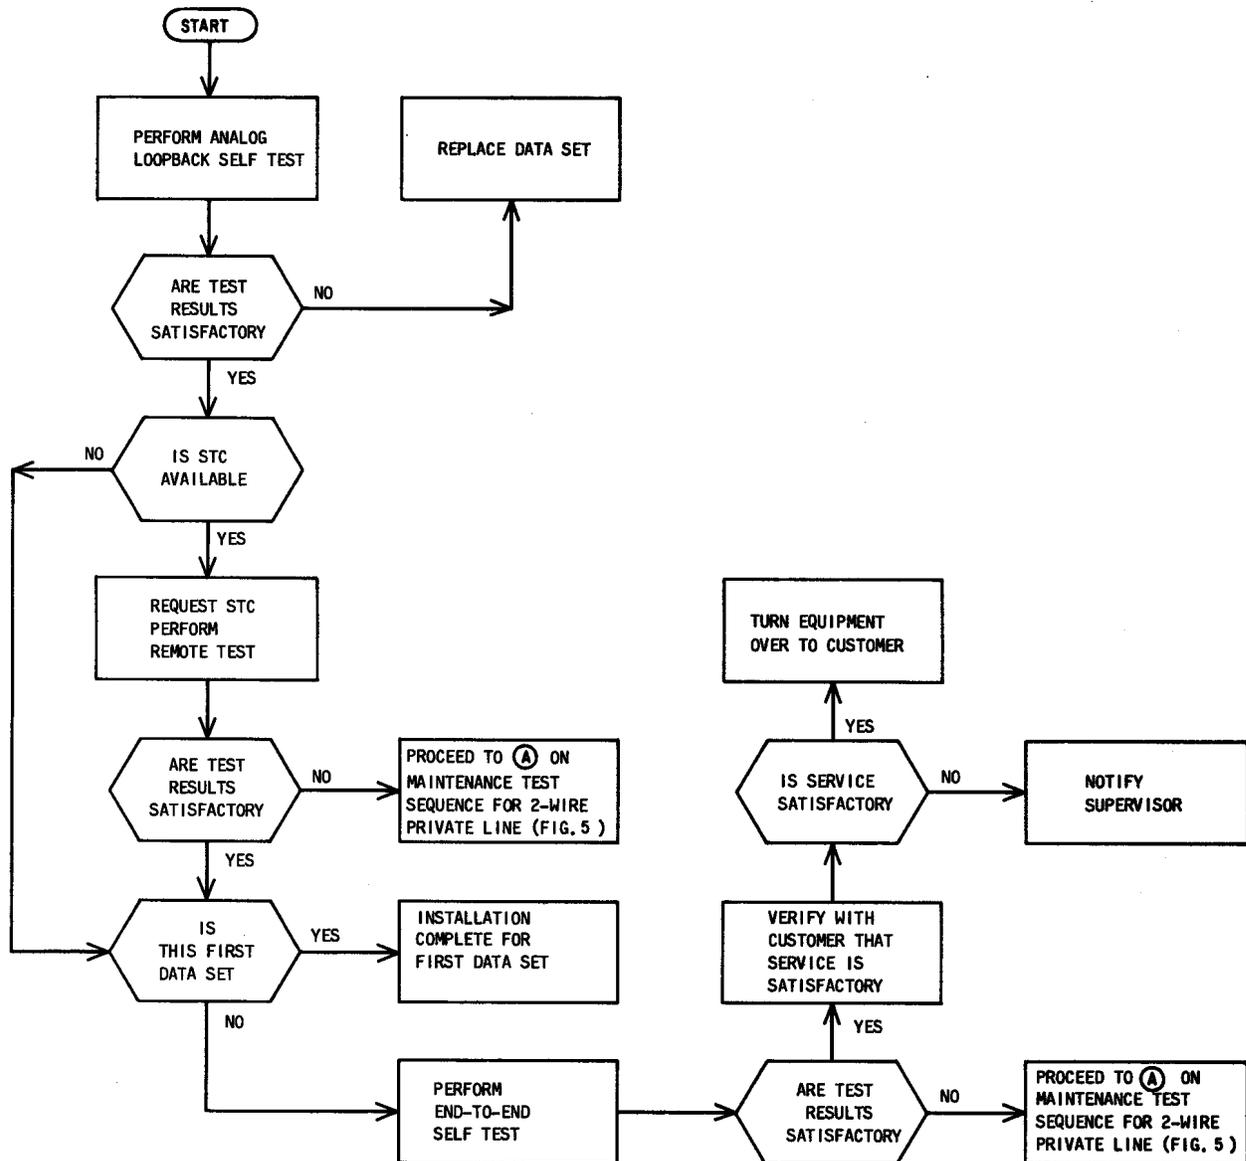

Fig. 1—Installation Test Sequence (2-Wire Private Line)
2.02 Before proceeding with the tests, verify that the private line meets the requirements specified in Section 314-410-500. For a 2-wire private line, the installation test sequence is shown in Fig. 1. For a 4-wire private line, the installation test sequence is shown in Fig. 2.